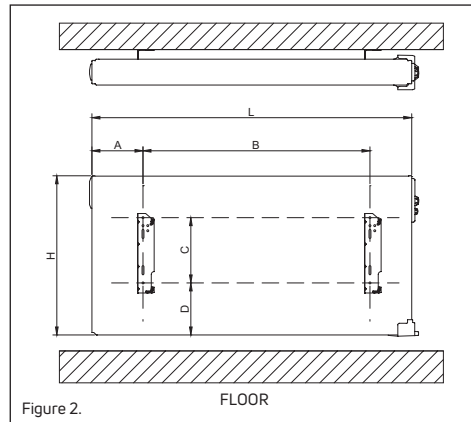
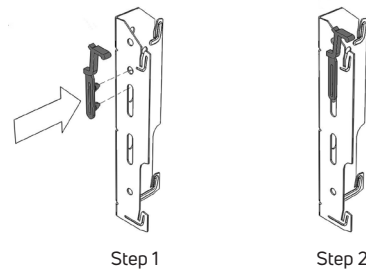

Figure 2.
Figure 3.
- Mark out the distance between the brackets and the positions for the screw holes as shown in figure 2 and the dimension tables at the top of page 7, and ensure the safety clips are used (see figure 3).
FINESSE Double Panel (refer to figure 2)